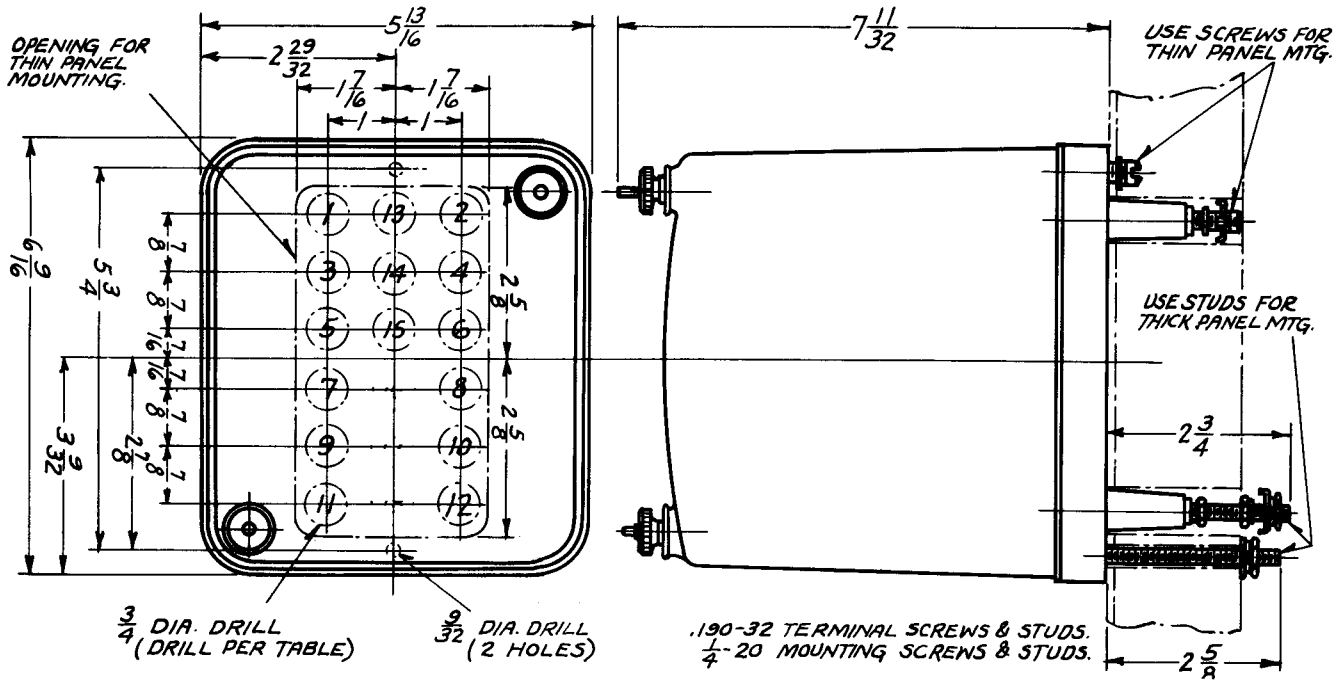

Fig. 17
* Fig. 17—External Connections for Directional Overcurrent Phase Protection of a Three Phase Line Using Three Type CO Torque Controlled Relays Directionally Controlled By One Type H-3 (90° Connection) and One Type MG Relay All in the Type FT Cases.